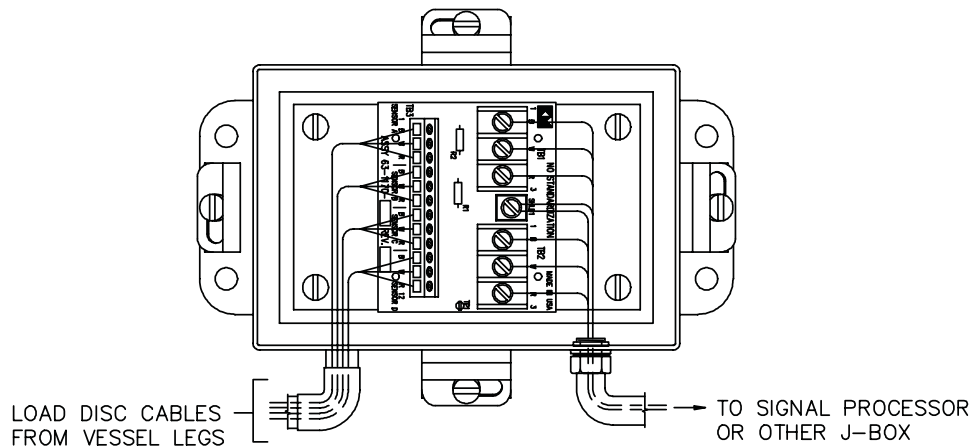

Figure 3-8: Wiring Load Discs to Stainless Steel Junction Box
See Figure 3-8. The stainless steel junction box accommodates up to eight Load Discs, with up to two Load Disc wires at each terminal. Note that the junction box has no pre-cut holes for conduit or fittings. Follow this procedure:
2. Thread the Load Disc cable through the desired conduit fitting. (See Figure 3-8).